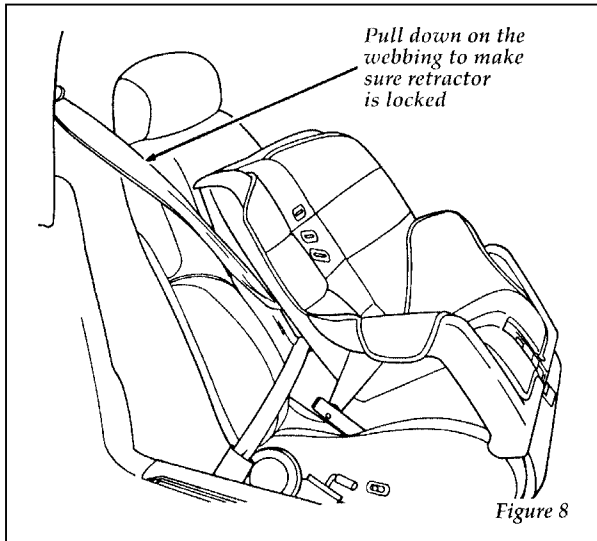

Figure 8
8. Double check that the retractor is in the automatic locking mode. Try to pull more belt out of the retractor. If you cannot, the belt is in the automatic locking mode, Figure 8.